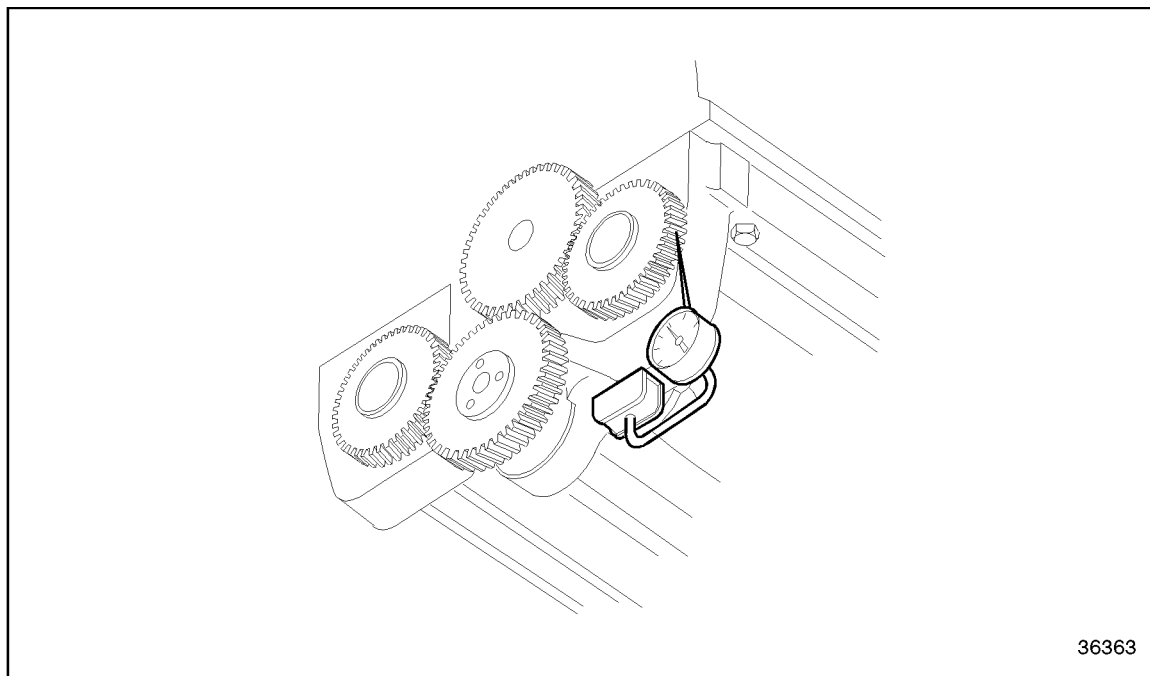

Figure 3-10 **Checking Gear Lash**
5. Check the gear lash between gears. Lash should read 0.051-0.203 mm (0.002-0.008 in.). See Figure 3-10.